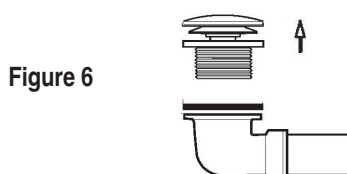

Figure 6
- Unscrew the soft-toe touch assembly from the waste body (Figure 6).